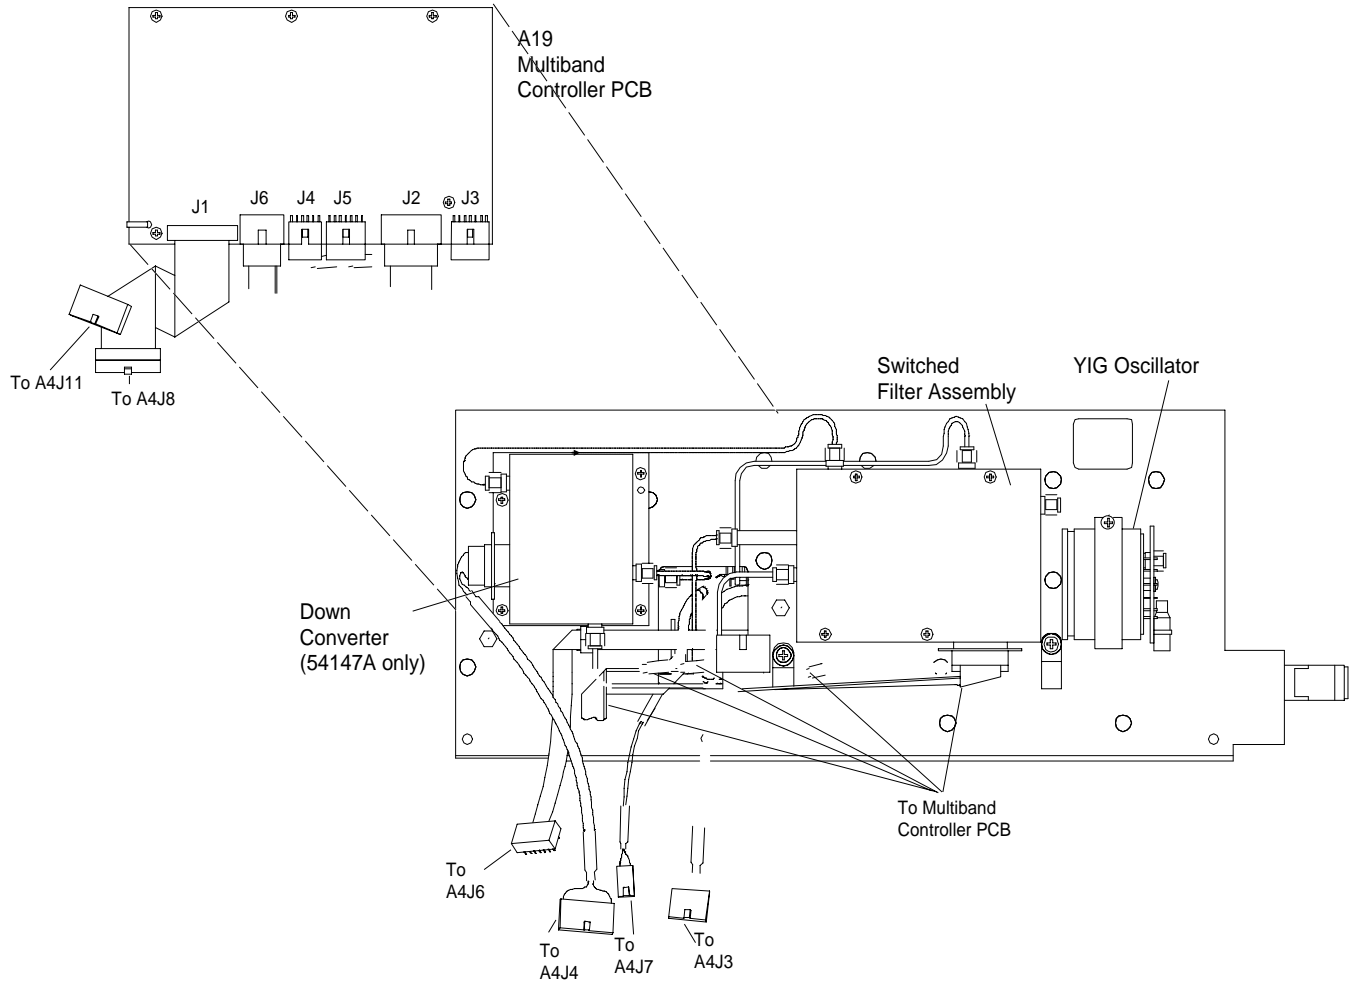

Figure 7-17. Models 54137A and 54147A RF Deck Parts Location (Internal Side Detail)
- Step 1.*** Remove the marker connection from A19J5 on the Multiband Controller PCB (Figure 7-17).
- Step 1.*** Remove the connection from A19J4 on the Multiband Controller PCB (Figure 7-17).
Step 2. Remove the Switched Filter (See Figure 7-17 and procedure on next page).